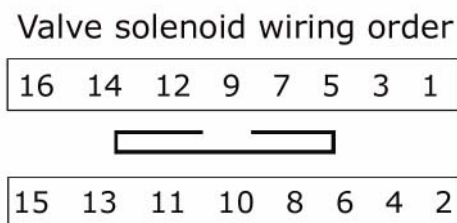

Figure 11: The wiring order on board A, which controls the movement of the valves.
- sixteen bigger solenoids are for opening the valves. The solenoids are in front of the dispensing module. The wiring order from the board to the solenoids is described in figure 11.